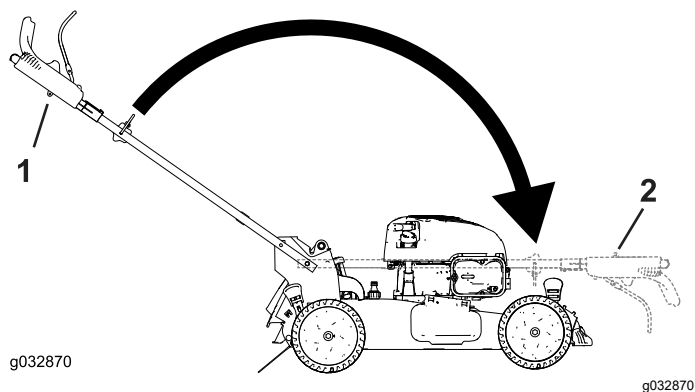

Figure 23
3. Fold the handle by rotating it forward (Figure 23).